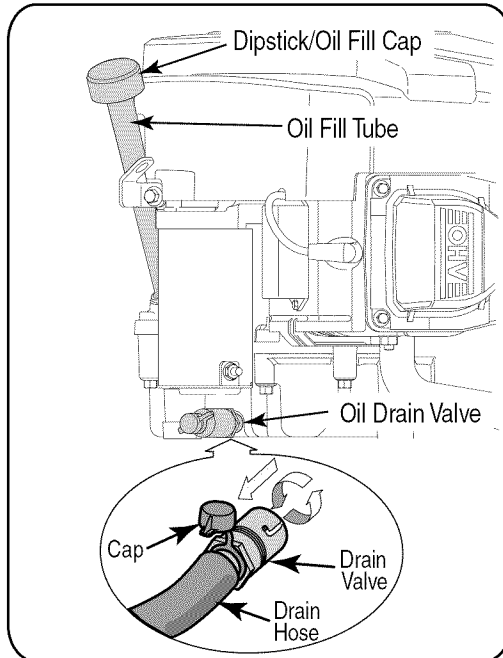

Figure 15
- Clean the area around the oil dipstick/fill cap, unscrew the dipstick/fill cap from the fill tube on the engine. Remove the dipstick and wipe the oil off. Reinsert the dipstick into the tube and rest the cap on the tube. Do not screw the cap onto the tube. See Figure 15.
- Locate the oil drain valve on the right side of the engine, beneath the starter motor. Refer to Figure 15.
- Remove the oil fill cap/dipstick from the oil fill tube. Push the drain valve in slightly and turn counterclockwise until it stop, then pull the valve fully outward to open the valve and drain the oil. Refer to Figure 15.